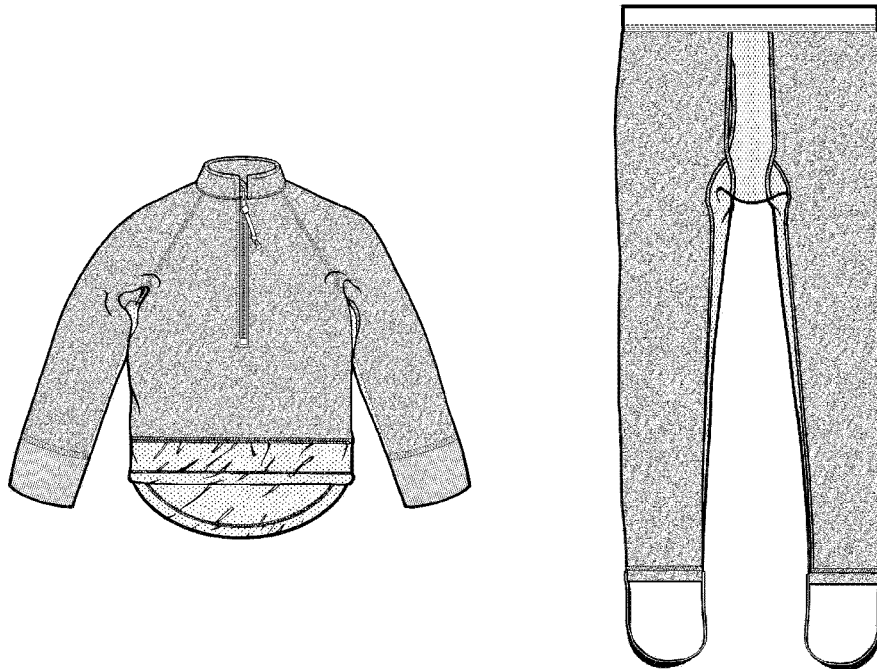

Figure 3-44. Heavyweight Shirt and Trouser
3. The **heavyweight** garment set (figure 3-44) will provide the level of protection required for in-water immersion when used with the anti-exposure coverall. The zip neck shirt is made of an aramid double velour with is modeled after the 200 weight polyester double velour available commercially. This layer can be worn alone or with the Silkweight and/or Midweight layers under a flight suit or an anti-exposure